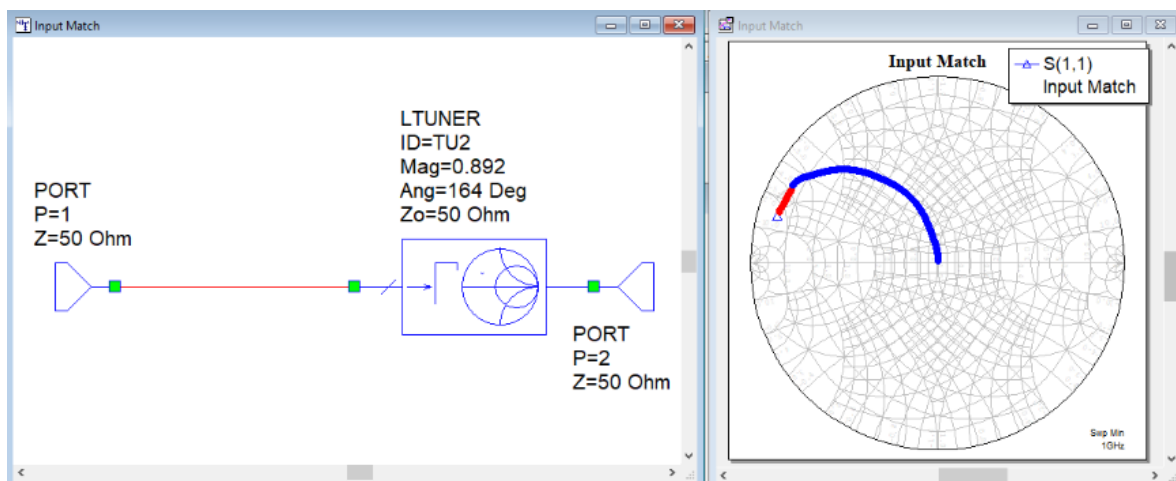

Fig. 5 Schematic with LTUNER with GM1* reflection and a Smith Chart with intended matching.
- Create the new schematic Input Match with LTUNER and the GM1* reflection value connected to PORT 1. Also create a new Smith Chart graph and show S_{11} reflection. Both are shown in Fig. 5.
- An input matching circuit can be synthesized as a matching circuit placed between the LTUNER and PORT 1 which matches impedance $GM1^*$ to $50\ \Omega$. In the Smith Chart in Fig. 5 the red color represents reflection transformation by adding inductance in series and the blue color a capacitor connected in parallel.